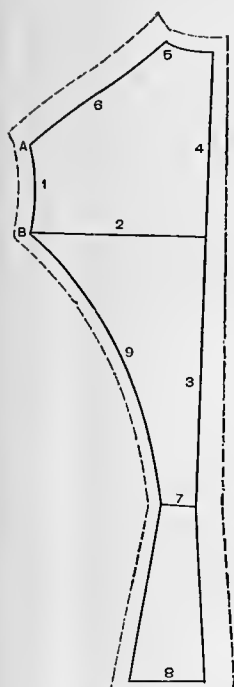
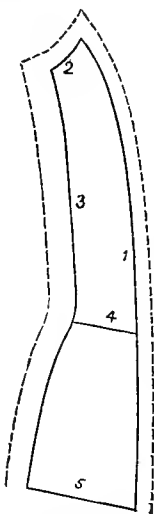
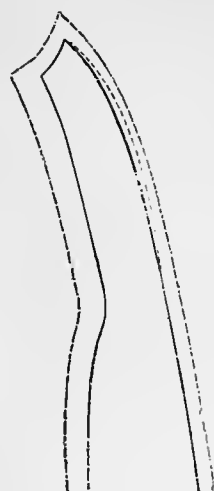

Fig. 6.
Fig. 8.
Fig. 9.
- 1st. Set 1, (see Fig. 6), the armhole to the measure ..... (15)
You will find two places to fix the arm-hole on the back, the upper shown by A, in Fig. 6, and the lower by B. Both are set at the armhole size, in this case 15, put the centre of the screw on the number. Have this part of the armhole, A B, straight up or parallel with 4, the centre line of the back for a medium length of shoulder.
- 2nd. Set 2, the width of back, to the measure ..... (13)
- 3rd. Set 3, the lower part of length of back, to the underarm length ..... (8)
- 5th. Set 5, the neck, to neck measure..... (13)
- 6th. Set 6, the shoulder, so as to bring the point of the armhole marked A on the cut straight up over the point marked B, for medium style. You can make the shoulder long or short by moving point A, Fig. 6, to the right or left..... (5)
- 7th. Set 7, the back of the waist, according to fashion, wide or narrow. Place the centre of screw at size 3 for medium or a 24 waist ..... (3)
- 8th. Set 8, the skirt of back by placing the centre of screw at the same figure that you used at the waist above. That is, if you set at 3 at the waist, also set at 3 for the skirt..... (3)
*To Mark the Back.*—Mark outside for cutting, and inside for the sewing lines, and at the lower edge of cross-piece at the waist for the waist line. To get the hollow of the back, mark a line from the wide seam line at waist line, up to the fullest part of the back, generally  $\frac{2}{3}$  of the distance from the waist to the neck, opposite B, Fig. 6, then gradually deepening the seam from that point down to the waist. This will give us Fig. 7.
- 1st. Set 1. (See Fig. 8), the circle of side body, at the same figures as you find on the circle of the back designated by figure 9, on cut 6, diagram of back, in this case, it is ..... (11 $\frac{1}{4}$ )
- 2d. Set 2, the armhole part by placing the centre of the screw on the armhole size..... (15)
- 3d. Set 3, the side seam, by the underarm length (8)
- 4th. Set 4, the waist, at the waist measure, less the number of sizes used on the back at the waist. Thus: waist 24, less 3 used in the back, leaves 21, which is the number to use here..... (21)
*To Mark the Side Body.*—Mark outside for cutting, and inside for sewing lines, and at the lower side of cross-piece at waist for the waistline. We then get Fig. 9.
CAUTION.—Number 3, Fig. 8, is set at the underarm measure except when you extend No. 3 on Fig. 6. When you add  $\frac{1}{2}$  inch to the lower part of back length, add half as much to No. 3 on the side body. That is, the circles of the side body which joins the back are always set at the same figures as the circles of the back, but the part of the side body which joins the underarm piece is set at the underarm length, except when you add to the lower part of the back length on account of hollow back, then add only half as much to No. 3; this part of the side body.